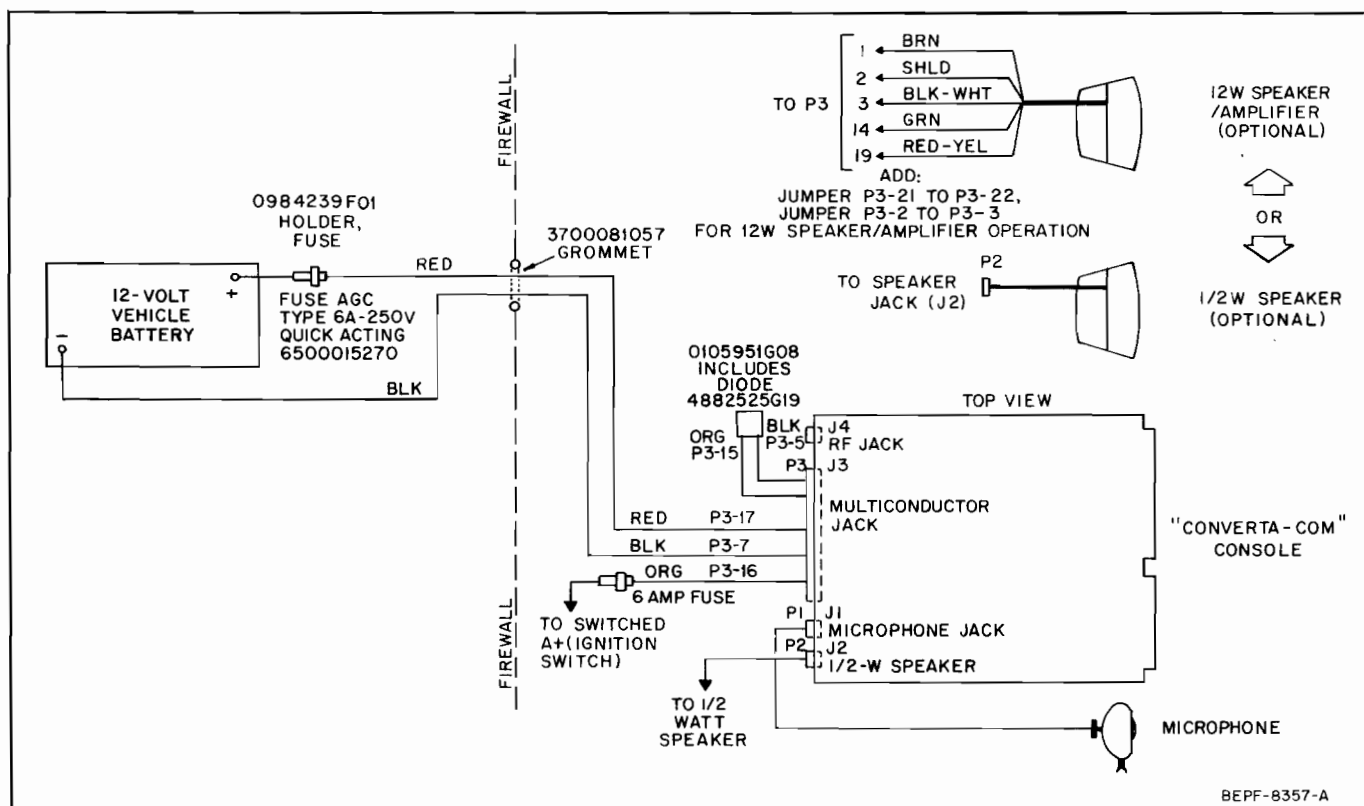

Figure 9. Console Intercabling Detail
(3) Position the console in the trunnion bracket so that the knurled fittings of the console and trunnion bracket fit together.
(4) To both sides of the trunnion bracket, attach a "Systems 90" bracket; feed an Allen-head screw through the hole of the flat end of the bracket, through the trunnion bracket, and into the console. Do not tighten the screws at this time; it will be necessary to remove the console to attach the cables.
(5) If there is a limited space behind the console, attach the cables before installing the "Systems 90" accessory on the mounting bracket. Refer to "Console Intercabling Detail" (Figure 9) to connect the cables to the console.
(6) Position the "Systems 90" accessory on the bracket and secure it in position with two (2) Allen-head screws.
Refer to Figure 9 before connecting any cable to the console. As shown in the figure, the console is used in a negative ground electrical system. Also shown are the termination points for the external speaker (1/2W or 12W). Perform the following procedure.
- k. If either of the two external speakers is used, connect it to the console in accordance with the information in Figure 9. Also refer to the 12W audio amplifier/speaker instructions (68P81I02C04) provided in the back of this manual.